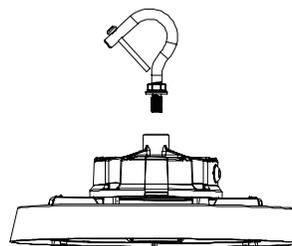

FIGURE 1
1. Screw the hook into the fixture. tighten and fix it (Figure 1)